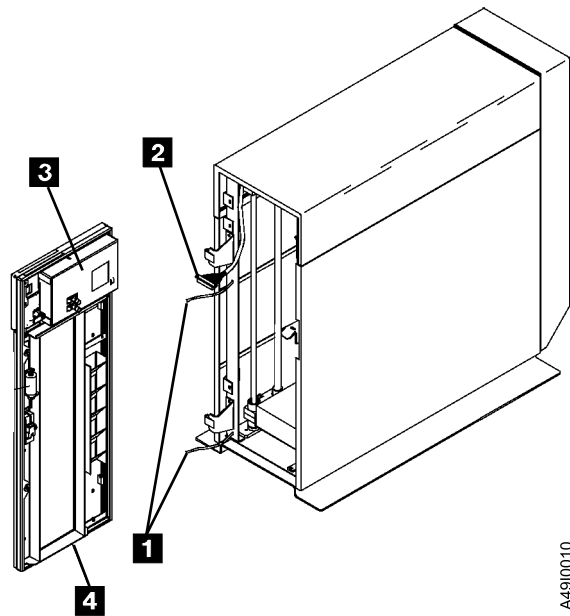

Figure 10. Ground Straps (Frame to Door)
- ___ Step 13. Open the library front door 4. See Figure 10 on page 13.
- Step 16. On the inside of the front door, remove the screw securing each frame-to-door ground strap. There are two ground straps 1. See Figure 10.
- ___ Step 26. Connect each frame-to-door ground strap to the inside of the front door. See Figure 10 on page 13.